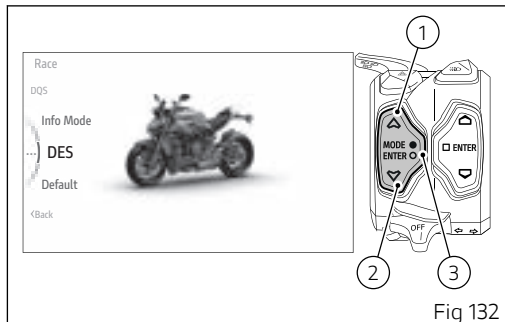

Fig 132
- From the Interactive Menu, use buttons (1) and (2) to select the item "Setting menu" and press ENTER (3).
- Select the "Riding Mode" item and press ENTER (3).
- Select the Riding Mode you wish to customise and press ENTER (3).
- Select the "DES" (Fig 132) item and press ENTER (3).
- from the Interactive Menu, use buttons (1) and (2) to select the item "Setting menu" and press ENTER (3).
- Select the "Modify Suspension" item (Fig 132) and press ENTER (3).
- Select "Custom Fixed Suspension" and press ENTER (3).
- Select "Custom Dynamic Suspension" and press ENTER (3).